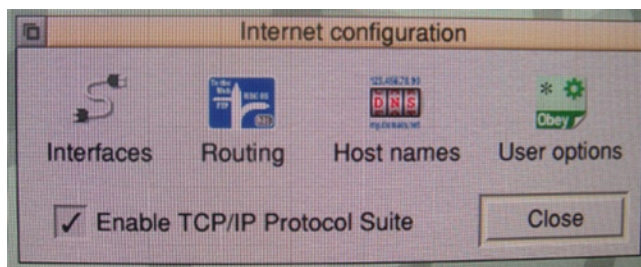

Figure 11-9. The Internet configuration options
2. Click the Internet icon and you should see the Internet configuration window like in Figure 11-9.